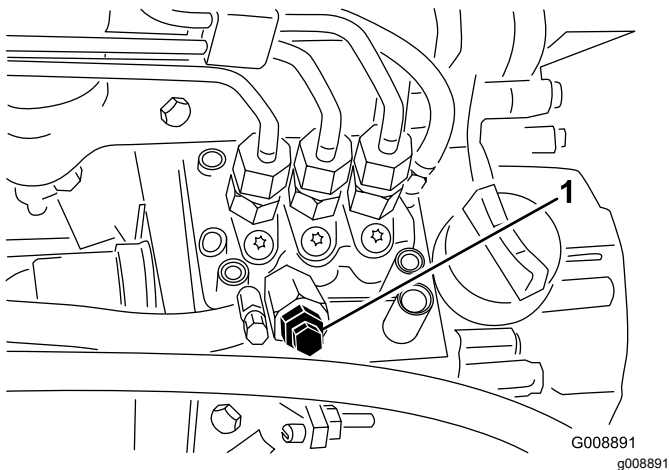

Figure 34
- Open the air-bleed screw on the fuel-injection pump (Figure 34).